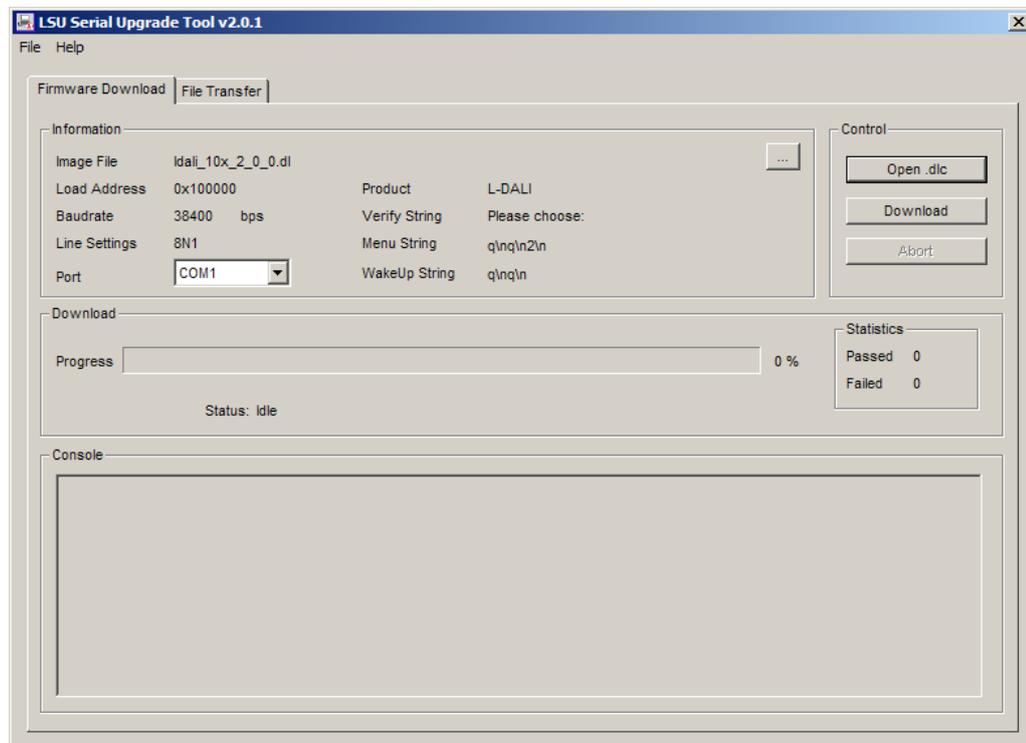

Figure 255: LSU Serial Upgrade Tool in Idle Mode
1. Double click on the *.dlc file that comes with the new firmware package. This should start the LSU Tool and load the firmware image referenced in the dlc file. Please note that the dlc file and the dl file must be stored in the same folder. The start window of the LSU tool is shown in Figure 255.